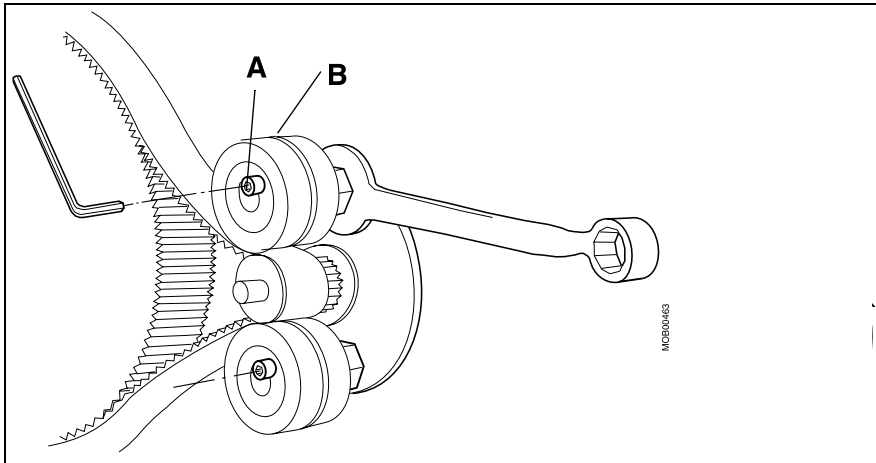

Fig. 76: Drive belt
- Loosen the two screws (A/Fig. 76 / p. 82).
- Loosen the tension bearings with a 13mm wrench (B/Fig. 76 / p. 82).
- Tighten the tension bearings (B/Fig. 76 / p. 82) and the screws (A/Fig. 76 / p. 82).
- Loosen the screws (A/Fig. 76 / p. 82). Now the transmission belt tension can be adjusted using a 13 mm wrench.
- Tighten the screws (A/Fig. 76 / p. 82).